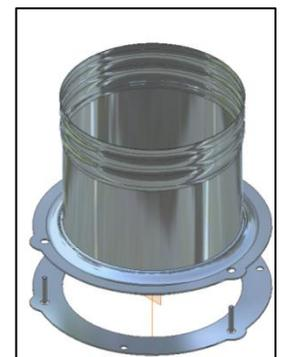

Figure 3-8: 6CON Liner Connector
The Elegance 36 fireplace can be connected to a masonry chimney that complies with current national and municipal building codes. A 6 inch chimney liner that complies with ULC S635 M2000 (Canada) or UL 1777 (US) standards must be installed within the existing masonry chimney. Note that the 6CON connector (manufactured by SUPREME FIREPLACES INC.) must be installed to connect the prefabricated chimney to the liner (6CON sold separately) unless otherwise specified by the manufacturer of the prefabricated chimney being used. Refer to Figure 3-8.